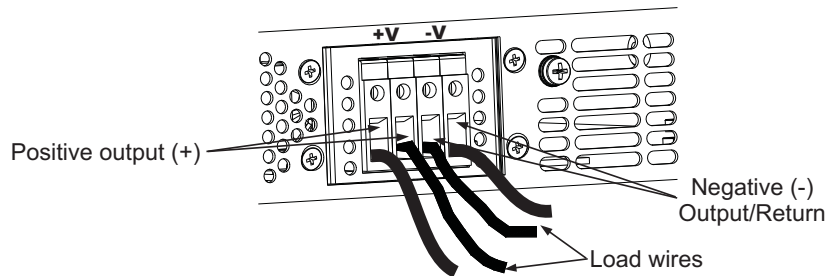

Fig.3-7: Load wires connection to the output connector
3. Insert the stripped wires into the terminal and tighten the terminal screw securely (see Fig.3-7)